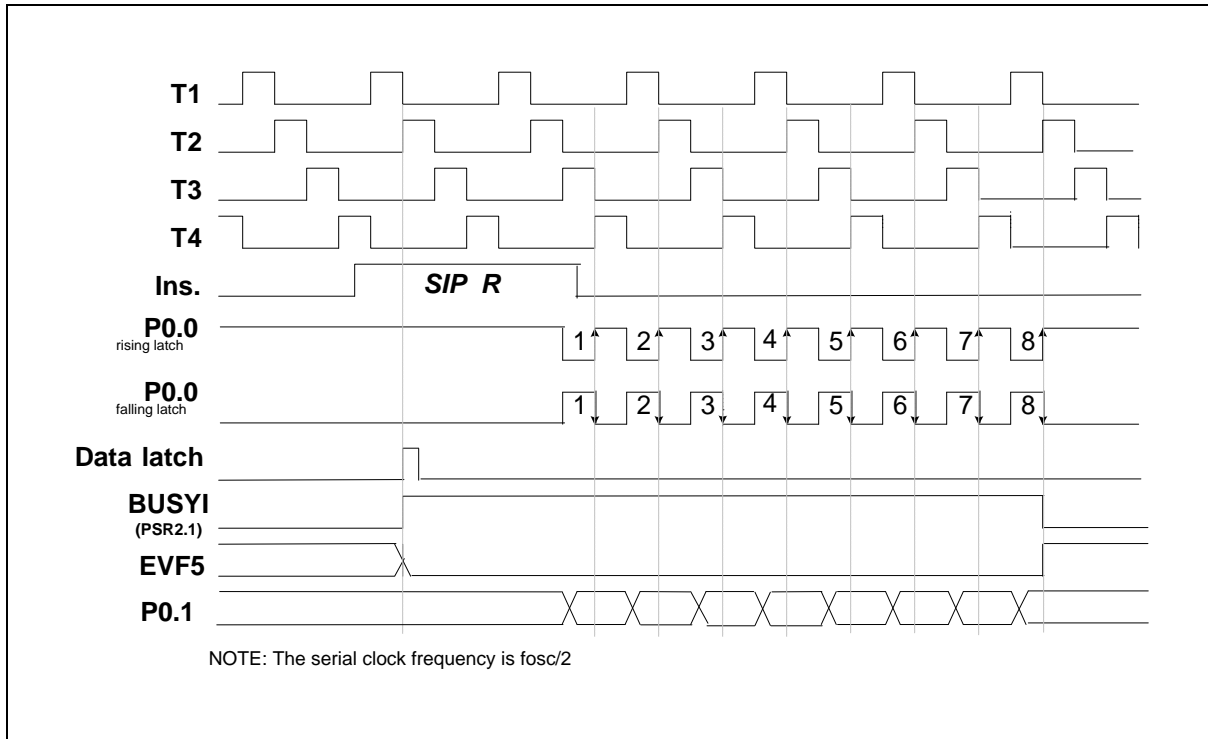

Figure 5-12 Timing of the Serial Input Function (SIP R)
- (1) **When in the first time the SIP R instruction is executed, the data will be loaded to the ACC and RAM from the serial input buffer. But this data is not meaningful, it is used to enable serial port.** There are two methods to get the serial data, one is interrupt and the other is polling. When enable the serial input, the bit 1 of port status register 2 (PRS2) will automatically be set to "1" (BUSY1 = 1). Then the P0.0 pin will send out 8 clocks or accept 8 clocks from external device and the data from the P0.1 pin will be loaded to SIB buffer at the rising or falling edge of the P0.0 pin. After the 8 clocks have been sent, BUSY1 will be reset to "0" and EVF.5 will be set to "1." At this time, if IEF.5 has been set (IEF.5 = 1), an interrupt is executed then the SIP R instruction can get the correct data from the serial input buffer (SIB), **low nibble of SIB moves to ACC register and the high nibble moves to RAM**; if HEF.5 has been set (HEF.5 = 1), the hold state is terminated. The polling method is to check the status of PSR2.1 (BUSY1) to know whether the serial input process is completed or not. If a serial input process is not completed, but the SIP R instruction is executed again, the data will be lost. The timing is shown in Figure 5-12.